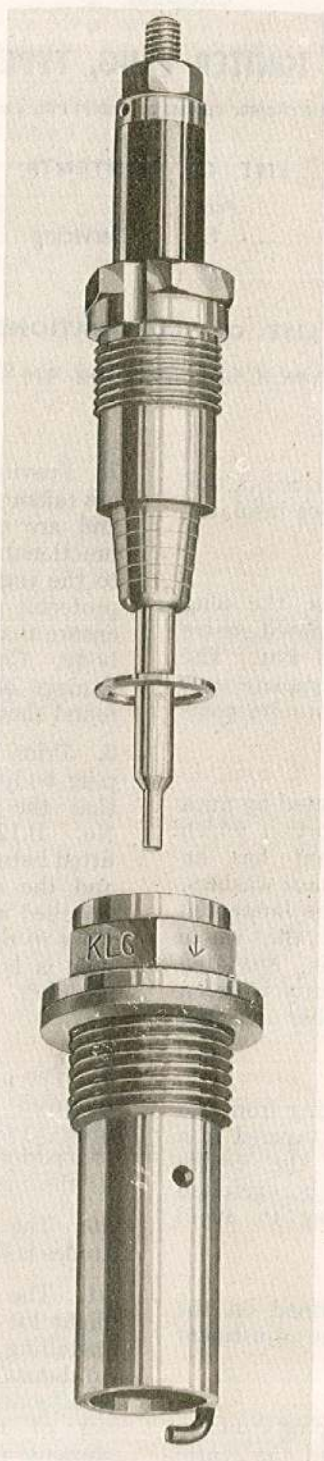

Fig. 1. Exploded view of K.L.G. igniter plug, type 994/9
6. The hole in the body of the plug shown in fig. 1 allows air to flow around the centre electrode and out at the base of the plug, thereby preventing a build-up of carbon.
8. Prior to installation slightly smear the plug body with graphite grease, and ensure that the appropriate K.L.G. washer Part No. B.1246 supplied with the plug is fitted between the shoulder on the plug body and the engine. Ensure that the plug is installed with the arrow (*fig. 1*) facing to the front of the engine, indicating that the vent hole is facing upstream of the combustion chamber.